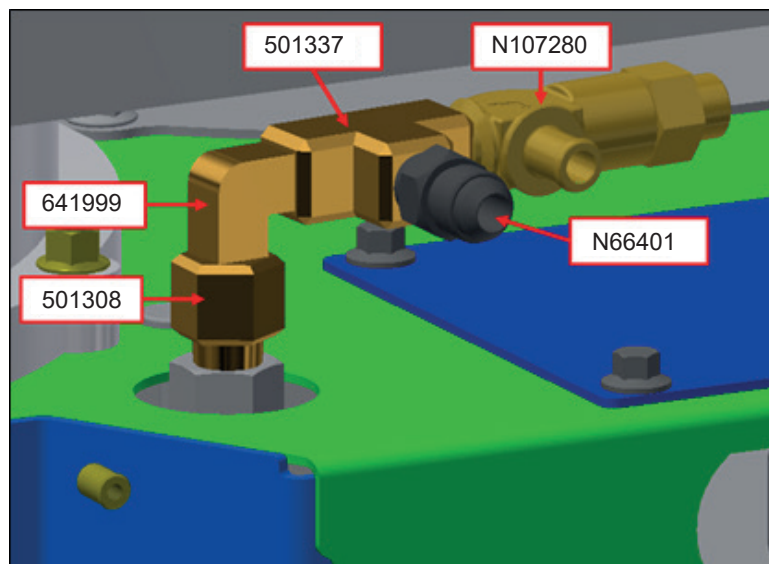

Figure 5 - Installation of Relief Valve
- 1.9. Install the following parts on the radiator inlet vent line: Assembly order: 1-2, 3-4, 5 (see figure 5).